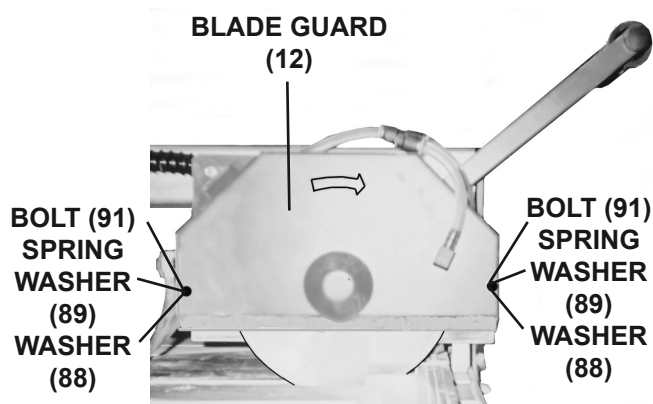

FIGURE 15
1. Remove the Bolts (91), Spring Washers (89), and Washers (88) from the Blade Guard (12). (See Figure 15.)